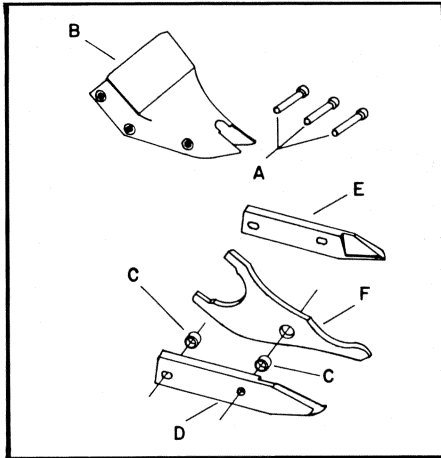

Fig. 3
Remove shear head from motor by loosening three cap screws (A) Fig. 3 and pulling head firmly forward. Slight twisting action may be required if head does not slide off easily.
Install cutter blades into shear housing (B) Fig. 3, by placing the side knife and side spacer into position in the shear housing. Insert center cap screw (A) through side knife and side spacer with rear spacer bushing (C) between them and start cap screw into thread just enough to hold blades in place. **DO NOT TIGHTEN.** Insert spacer bushing (C) into hole in center blade and lubricate with bearing grease. Install center blade into shear housing by tapping blade gently forward using a drift to line up hole in center blade with forward holes in housing. Insert and tighten forward cap screw (A) making sure spacer bushing (C) in center blade stays in position. Apply bearing grease to yoke in center blade where it rides on the eccentric bearing assembly. Insert rear cap screw (A) into shear housing but do not completely tighten.